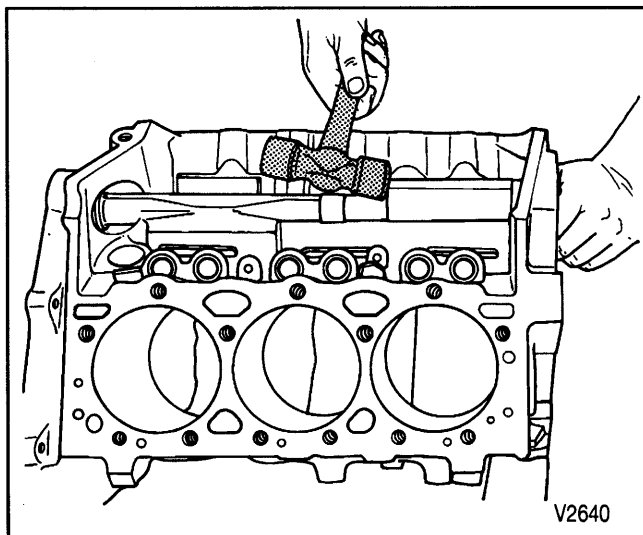

Figure 30—Removing The Balance Shaft
15. Balance shaft and front bearing using a soft faced hammer (figure 30).